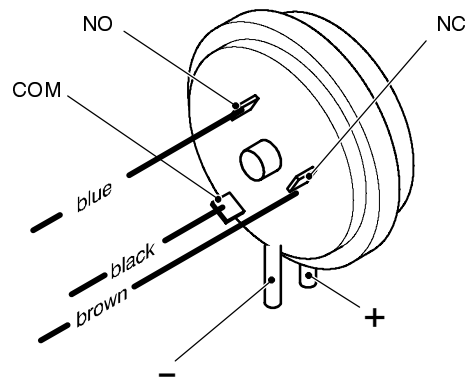
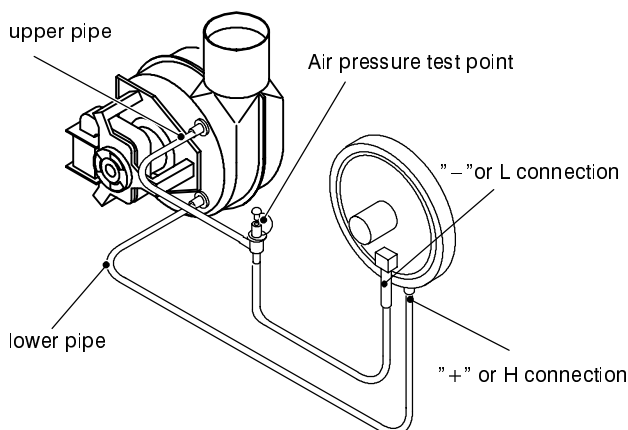

fig. 80a
fig. 81
Refer to the fig. 80a b or c in accordance with the type of air pressure switch used.
**Warning:** reassembling the fan, refer to fig. 81 to connect correctly the venturi device to the air pressure switch.
**Warning:** reassembling the air pressure switch, refer to fig. 80a b or c to connect correctly the wirings and to fig. 81 to connect the venturi device to the air pressure switch.